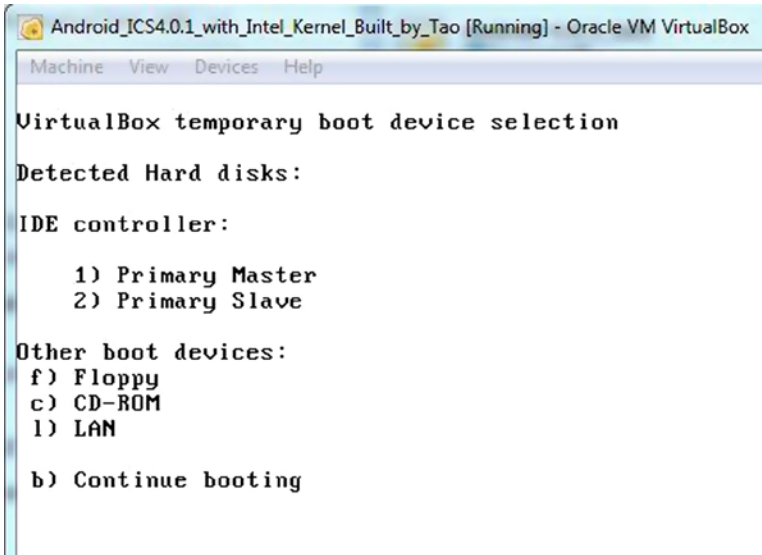

Figure 8-19. Booting Installer Image Inside VirtualBox
3. Use grub to select the Install option: 2. Boot from the primary slave (see Figure 8-19).